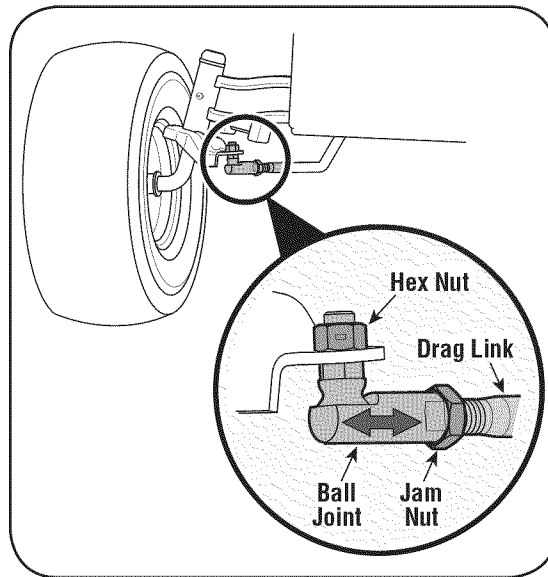

Figure 19
1. Loosen the jam nut found on the drag link at the rear of the ball joint. See Figure 19.
2. Remove hex nut on the top of ball joint. See Figure 19.